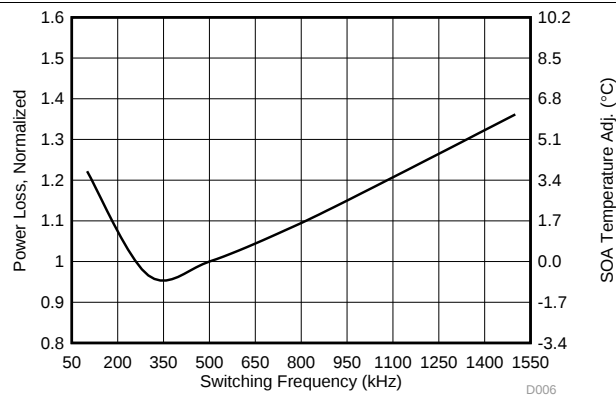

Figure 5. Normalized Power Loss vs Switching Frequency
- Normalized power loss for switching frequency ≈ 1.08 (Figure 5)